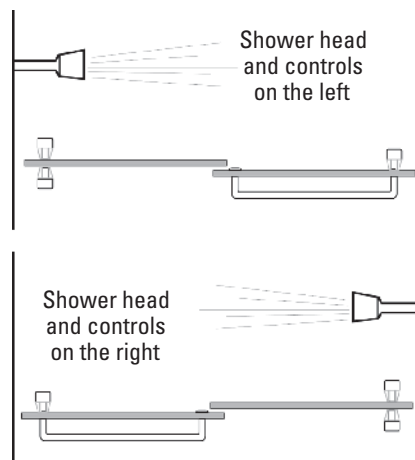

Figure 8
- Locate the Tubular Towel Bar Kit (#7) with two (2) Towel Bar Adapters (#7C), two (2) Barrel Knob with Recessed Finger Pulls (#8), four (4) Finger Pull Washers (#7A), and two (2) Finger Pull Bushings (#7B). Refer to the IPB Drawing to help identify these parts.
- Assemble the threaded post of Towel Bar Adapter (#7C) into the end of the Tubular Towel Bar (#7) by screwing "finger tight". Do for both sides (See Figure 8).